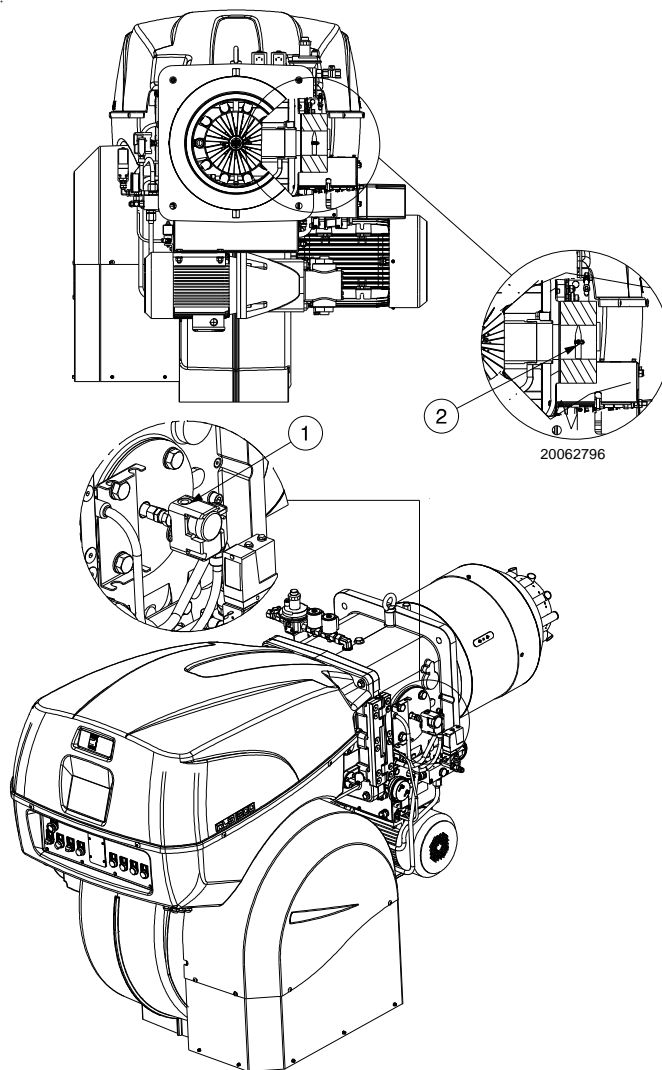

Fig. 27
Gas pressure measured at test point 1)(Fig. 27), with:
Pressure loss at gas butterfly valve 2)(Fig. 27) with maximum opening: 90°.
- subtract the combustion chamber pressure from the gas pressure measured at test point 1)(Fig. 27).
Gas pressure at test point 1)(Fig. 27) = 44.2 mbar
To calculate the required gas pressure at test point 1)(Fig. 27), set the maximum modulating output required from the burner operation:
- Read, on the right (column 1), the pressure at the test point 1) (Fig. 27).
pressure required at test point 1)(Fig. 27).